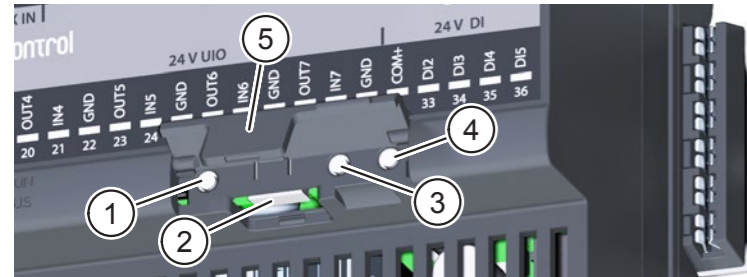

Fig. 3: Controls
There are three pushbuttons and a USB port beneath the service flap (item 5 in Fig. 3) on the UIO100 module.